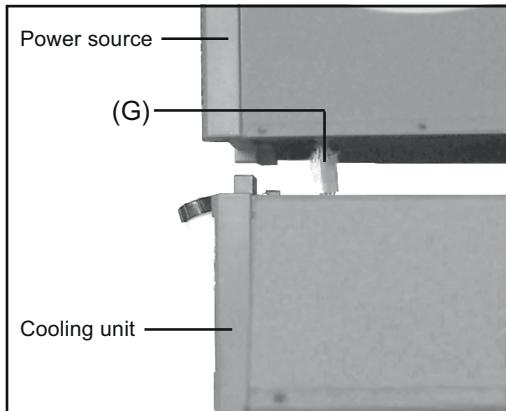

Fig.8 Unplugging connection between power source and cooling unit
- 10** Carefully lift power source and unplug connection (G) between it and the cooling unit (Fig.8)
- 11** Lift power source off cooling unit (Fig.8)